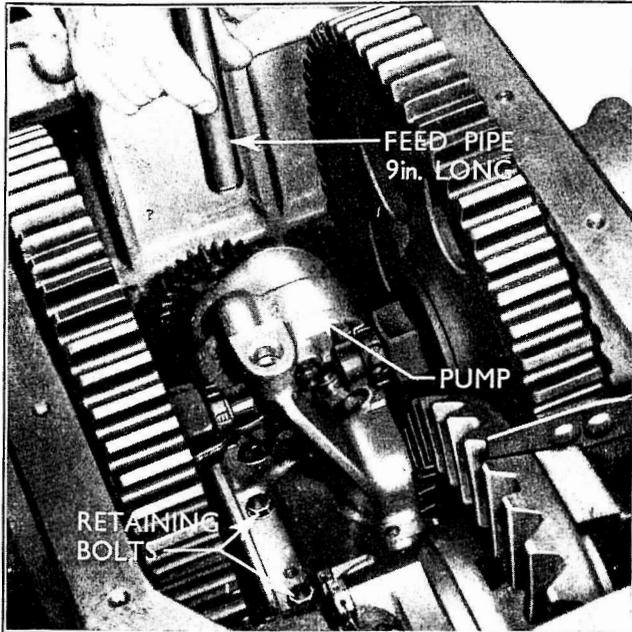

Fig. 193
- 6 Unscrew the retaining bolts which retain the ram cylinder housing to the rear transmission housing, fit the lifting eyebolt (Tr/D 994781) and remove the ram cylinder housing. The vertical oil pipe (9 ins. long) from ram cylinder to pump map come away with the housing and map now be removed (see Fig. 193).
- (b) Remove the rear transmission cover and check the ram cylinder to pump oil pipe seals (see Fig. 193).